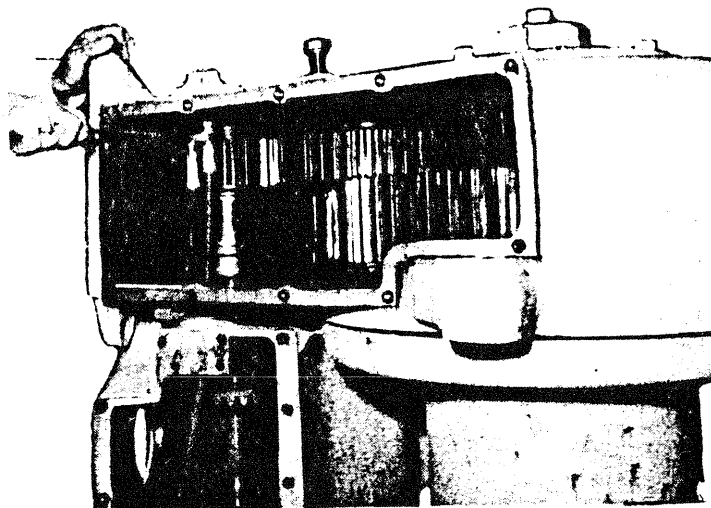

Figure 9
4. Remove the top side frame cover and disconnect the hydraulic line as shown in Figure 9.